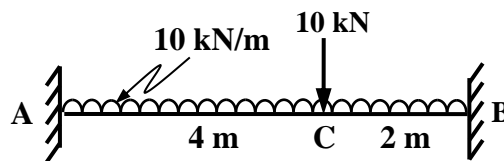

Fig. 4
5. Determine reactions at any one support of the fixed beam shown in fig.4.